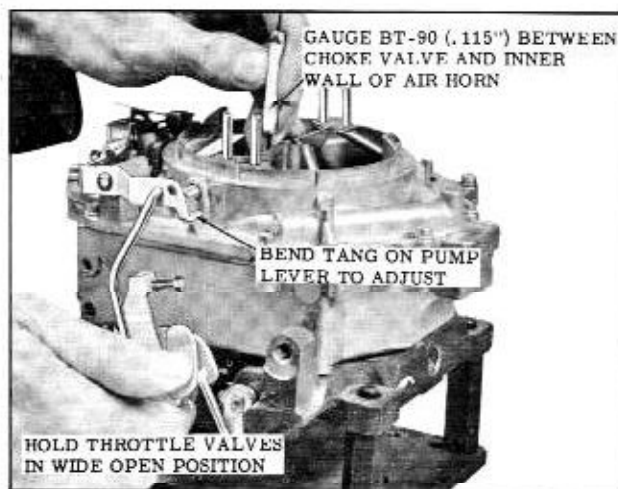

Fig. 8-130 Unloader Adjustment
2. While holding the throttle lever in the wide open position (with carburetor off car), or with accelerator pedal completely depressed (with carburetor on car), check the clearance between the top edge of the choke valve and the dividing wall. The correct clearance is .115" and can be checked with gauge BT-90. (Fig. 8-130)